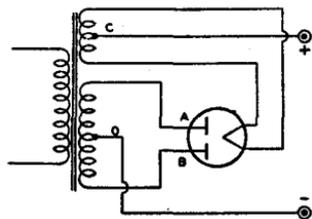

Fig. 12
**Maximum peak inverse voltage** characteristic of a rectifier tube is the highest peak voltage that a rectifier tube can safely stand in the direction opposite to that in which it is designed to pass current. In other words, it is the safe arc-back limit with the tube operating within the specified temperature range. Referring to Fig. 12, when plate A of a full-wave rectifier tube is positive, current flows from A to C, but not from B to C, because B is negative. At the instant plate A is positive, the filament is positive (at high voltage) with respect to plate B. The voltage between the positive filament and the negative plate B is in inverse relation to that causing current flow. The peak value of this voltage is limited by the resistance and nature of the path between plate B and filament. The maximum value of this voltage at which there is no danger of breakdown of the tube is known as maximum peak-inverse voltage. The relations between peak inverse voltage, rms value of a-c input voltage, and d-c output voltage depend largely on the individual characteristics of the rectifier circuit and the power supply. The presence of line surges or any other transient, or wave-form distortion may raise the actual peak voltage to a value higher than that calculated for sine-wave voltages. Therefore, the actual inverse voltage, and not the calculated value, should be such as not to exceed the rated maximum peak inverse voltage for the rectifier tube. A cathode-ray oscillograph or a spark gap connected across the tube is useful in determining the actual peak inverse voltage. In single-phase, full-wave circuits with sine-wave input and with no condenser across the output, the peak inverse voltage on a rectifier tube is approximately 1.4 times the rms value of the plate voltage applied to the tube. In single-phase, half-wave circuits with sine-wave input and with condenser input to the filter, the peak inverse voltage may be as high as 2.8 times the rms value of the applied plate voltage. In polyphase circuits, mathematical determination of peak inverse voltage requires the use of vectors.